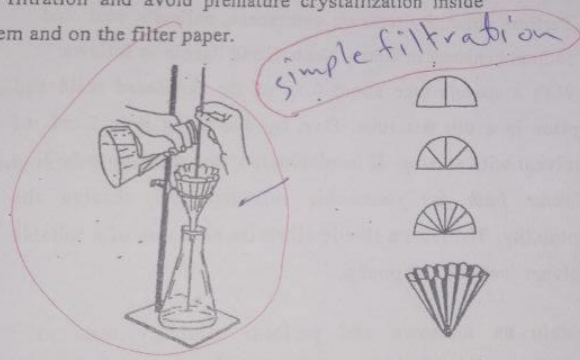

Figure 3.4 : Rapid filtration of a hot solution using a fluted filter paper.
3. Hot Filtration (Gravity Filtration). Filtration of the hot solution is necessary to remove insoluble impurities. A fluted filter paper and a short-stem funnel (Figure 3.4) allow rapid filtration and avoid premature crystallization inside the stem and on the filter paper.